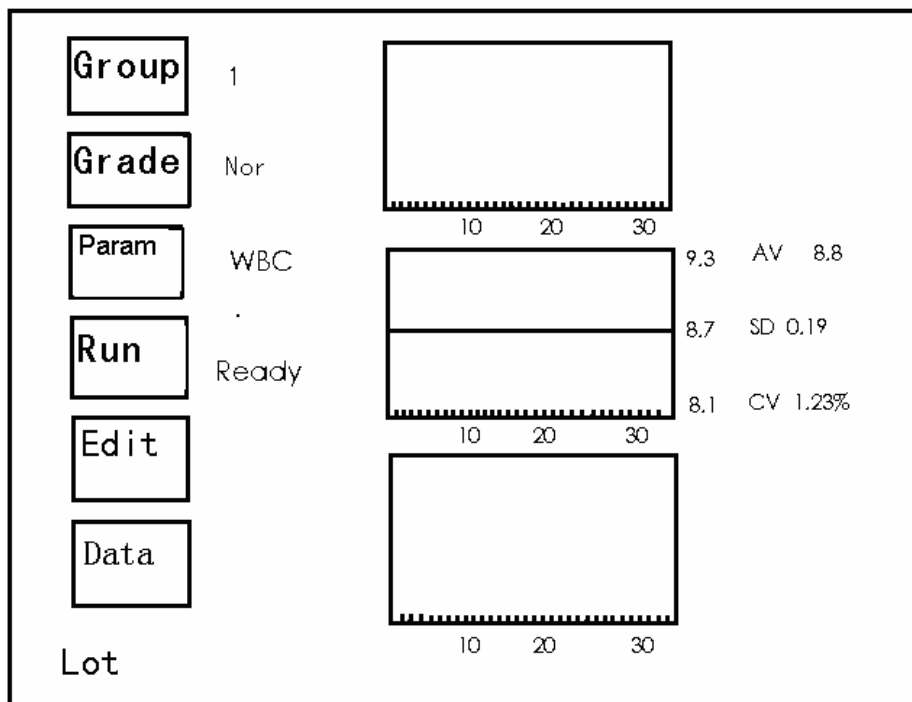
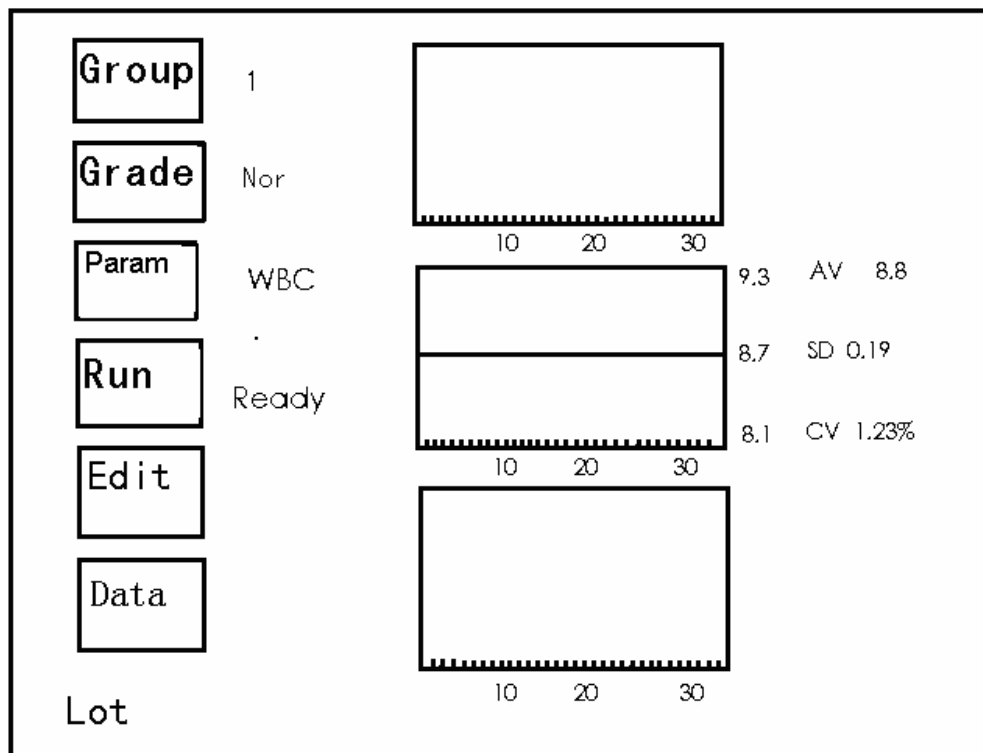

Figure 5-1
Figure 5-4
- a) At Blood Cell Analyze window, press FUNC, shift ↑ ↓, select Quality control, press ENTER into QC window, and see Figure 5-1.
Quality Control window, see Figure 5-1.
d) Shift ↑ ↓ to select Run, press ENTER, Ready twinkling on screen, see Figure 5-4.
- f) After analyzing, instrument back to the window in Figure 5-4, press FUNC to Quality Control window.
- g) If don't want to counting, can under the condition of step d) (that is Figure 5-4), press FUNC, back to quality control window in Figure 5-1, user can do other operation.
According to the QC Graph, the distribution, deviation and trend of the data can be estimated. A typical graph is LEVEY-JENNINGS, which is a unilateral Gauss normal school graph. Two dashed stand for minus and plus deviations respectively, while the midline stands for the average value. The right of the histogram stands for Mean, Diff and Cv, while the left stands for the upper, bottom value, and the median stands for average reference value of the standard deviations (See Figure 5-1). Up to 31 dots can be indicated on
Press FUNC at Blood Cell Analyze window, shift ↑ ↓ to selects Quality Control into QC window, See Figure 5-1.